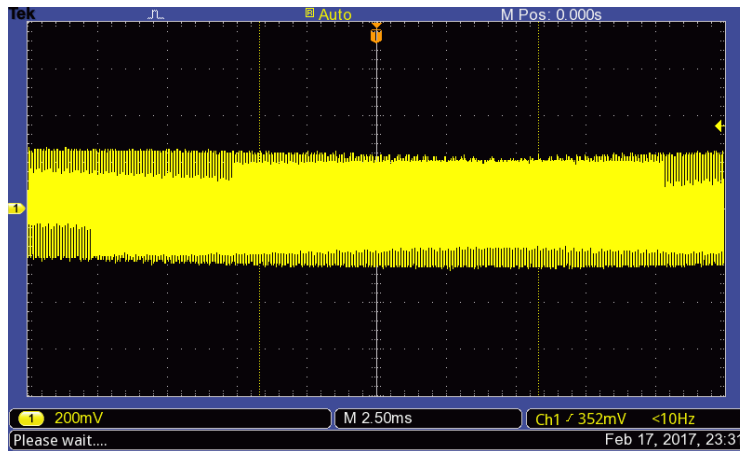
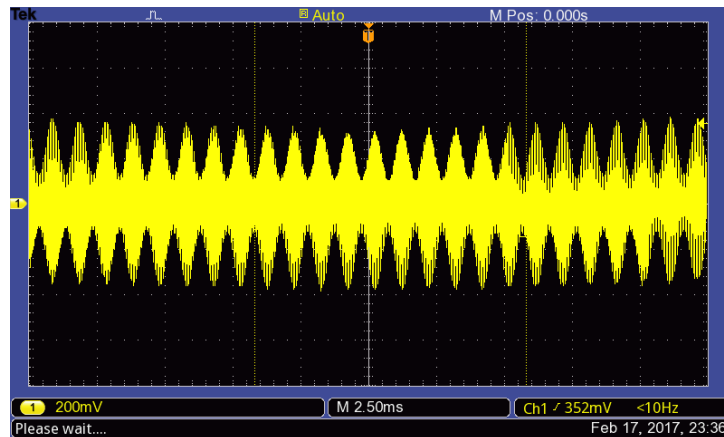

Figure 9: carrier frequency with no A.M. modulation
Figure 10: 50 % Depth of an A.M. signal.
- Set the Amplitude to 500mVpp. The volume on the radio lowers. This is like driving away from a radio station, there is less signal going into the antenna. This is not how we convey the amplitude of the information. Set the amplitude back to 1Vpp. Press **Shift** -> **Level**, the signal generator displays *100% DEPTH*. Change this value to *000% DEPTH*. Notice the 820 kHz wave on the oscilloscope has no change in amplitude. See figure 9. The amplitude is a constant 1Vpp. This conveys no amplitude of the information, E.g. the radio host is not talking. Press **Shift** -> **Level** again and set the Depth to 50 %. See figure 10. By not reducing the carrier amplitude to 0 Vpp we can convey the amplitude or volume of the information.